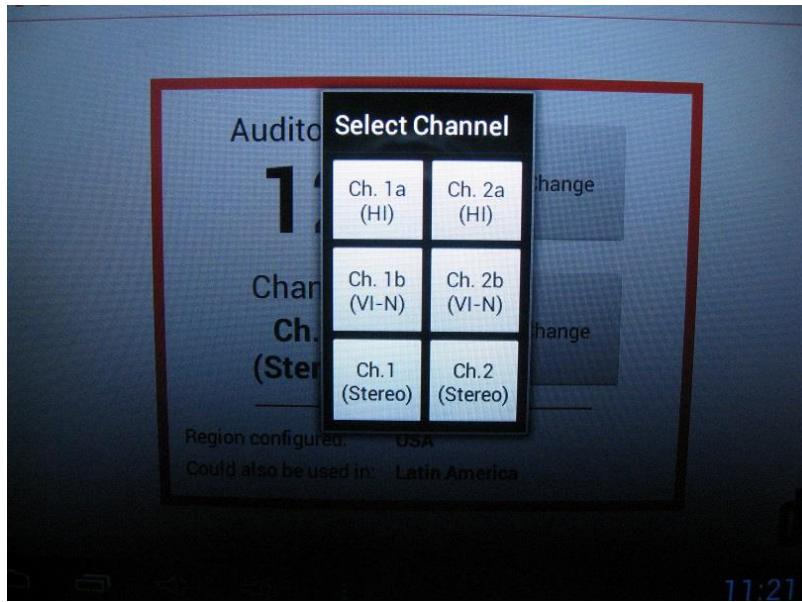

Figure 38: Receiver Select Channel Assignment Screen
- When you select the Channel Change button, you will be presented with the Select Channel screen (Figure 38).